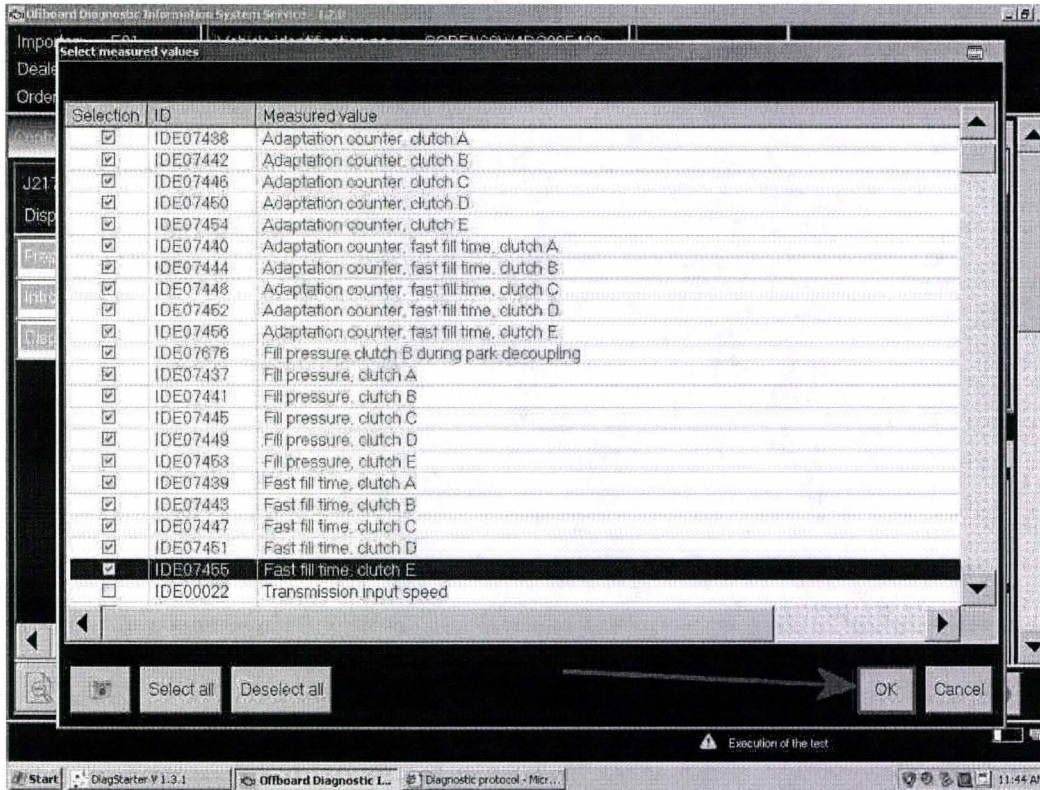

Figure 8
- Referring to Figure 8, It is a requirement to tick and select the 21 boxes as shown, this is to ensure all relevant information is captured before and after the Adaptions process/road test is conducted, please ensure that all of the ID numbers/Measured values shown are selected